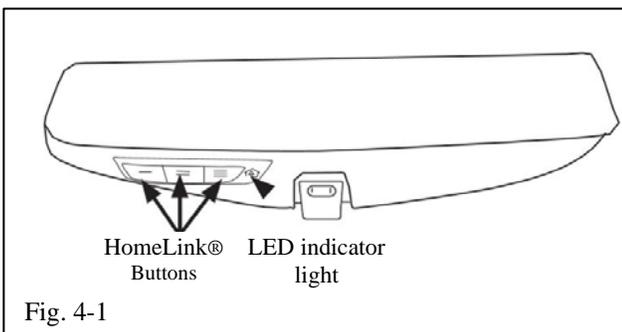

Fig. 4-1
- (1) Push in HomeLink® buttons one at a time.
- (2) Verify the LED indicator light is blinking amber when each switch is pushed (Fig. 4-1).